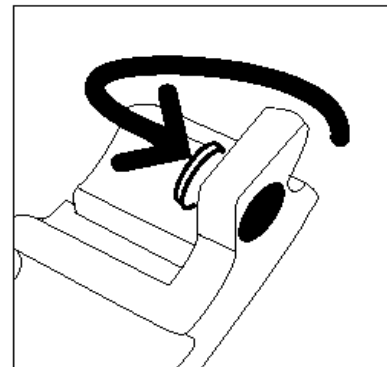

Figure 21: Placing the cap on the waste container
- 6** Securely push the gold cap over the opening on the back of the waste container, as illustrated in Figure 21, to prevent developer beads from spilling out.